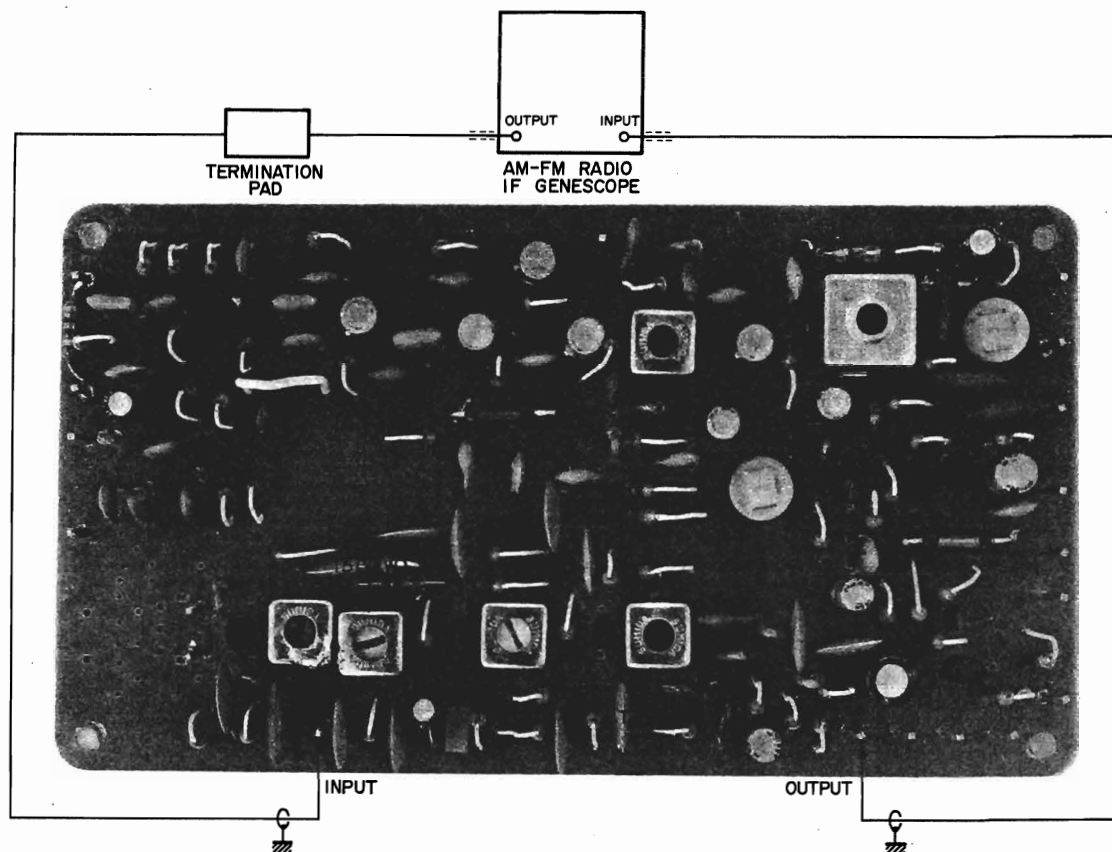
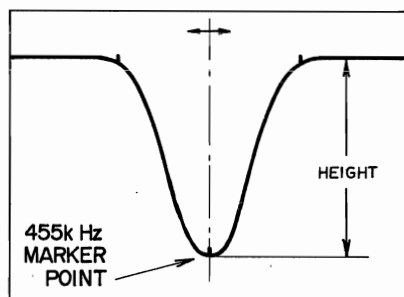

Fig. 14 INSTRUMENT CONNECTIONS
Fig. 15
- 1) Connect the AM-FM Radio IF GENESCOPE (hereinafter referred to as GENESCO) lead wires to input terminal as well as output terminal of the FM-AM IF P.C. Board as shown in Fig. 14.
NOTE: A noise element should not enter the single peaked curve shown in Fig. 15.
- 5) Adjust the cores of FM-AM IF P.C. Board IFT T7(BLK) (refer to Fig. 14) so that the 455 kHz marker point of the single peaked curve displays maximum amplitude as shown in Fig. 15.
- 6) Adjust the cores of FM-AM IF P.C. Board IFT T6(WHT) and T5(YLW) (refer to Fig. 14) so that the left and right rise up characteristics of the single peaked curve shown in Fig. 15 are identical from the center (indicated by the dotted line in the figure).